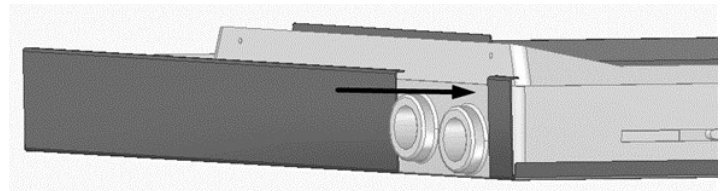

FIGURE 4
9. Press the front tabs of drain pan metal reinforcement inwards in as shown in Figure 4.